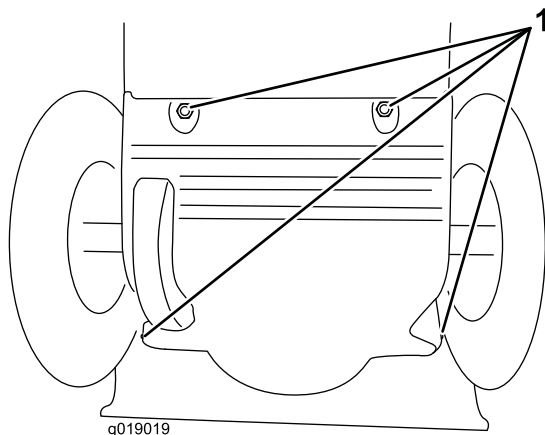

Figure 37
3. Remove the back cover (Figure 37).